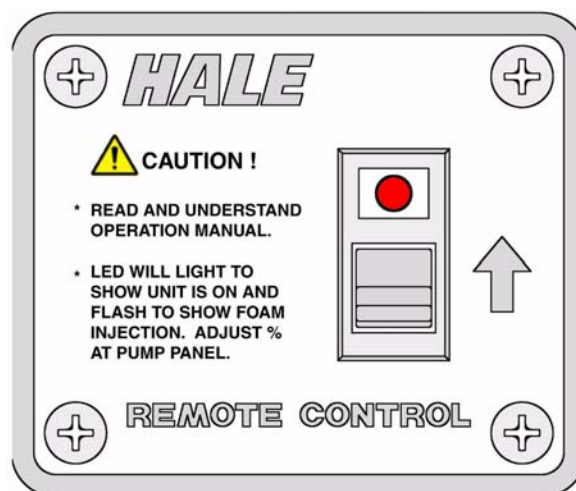

Figure 5-10: Remote Activation Switch
1. Press the switch down and release to activate. The LED illuminates, indicating the Hale FoamLogix is in the STANDBY mode. (See Figure 5-10: “Remote Activation Switch.”)
3. Pressing the switch again deactivates the Hale FoamLogix system and the LED shuts OFF. (See Figure 5-10: “Remote Activation Switch.”)